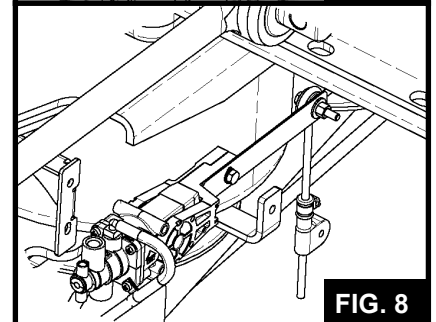

FIG. 8
- 6.3** Disconnect the height control valve linkage (**See FIG. 8**).